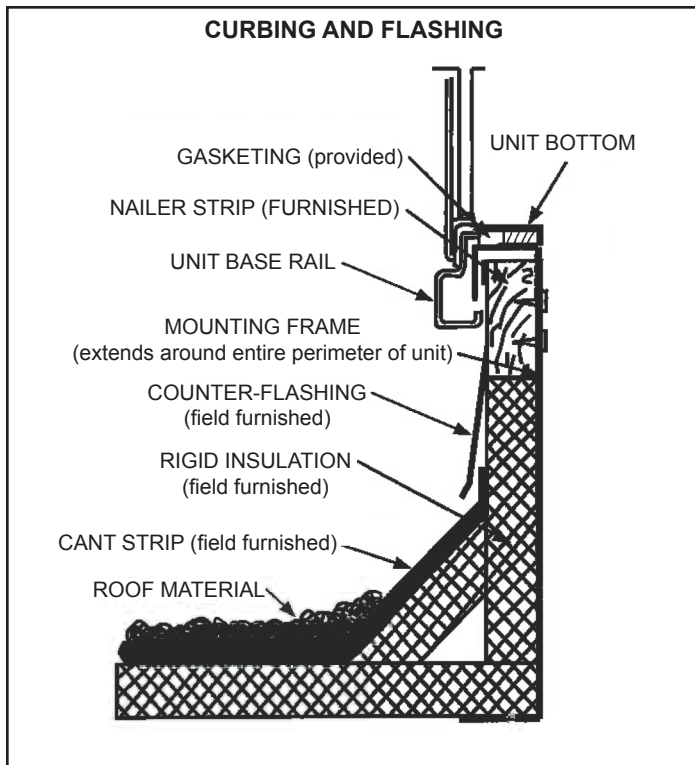
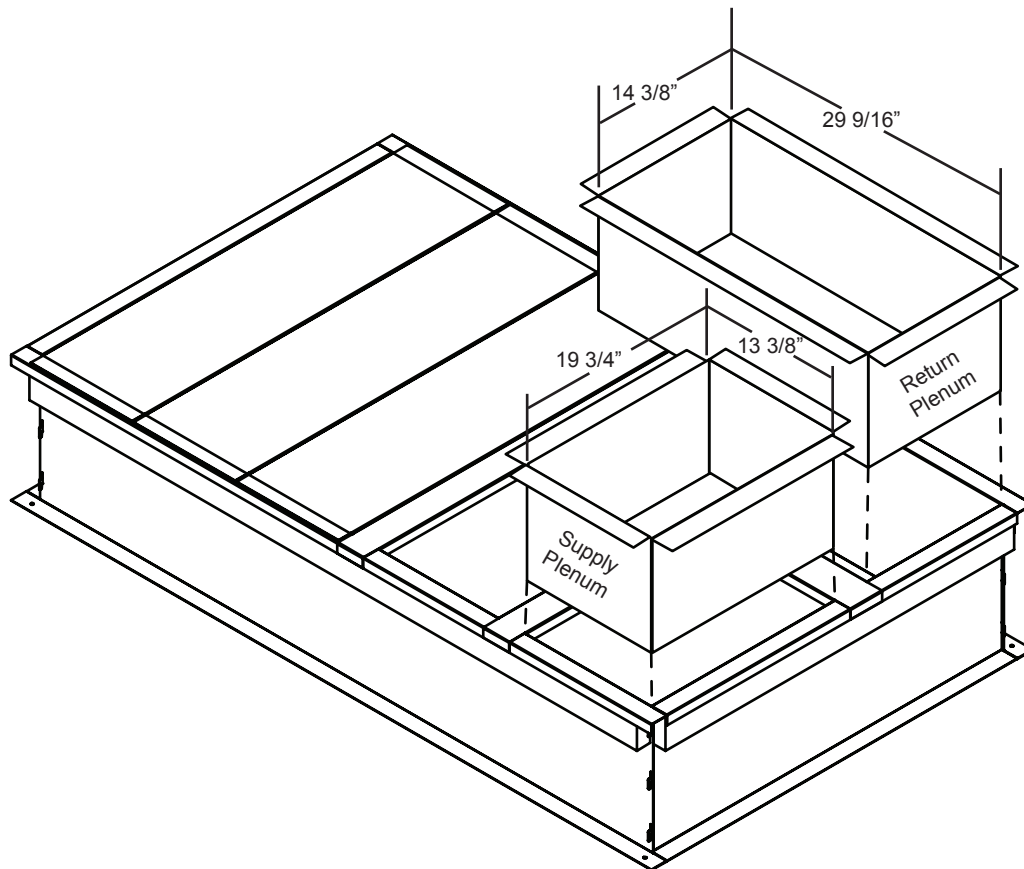

Figure 7
Figure 8
STEP 5: Roof-in curb see figure 7. Follow all local and applicable codes. Set duct in curb per figure 8.
Plenum must be constructed of galvanized steel (26 gauge minimum) with mat-faces fiberglass insulation applied to the inside. It is recommended that 1/2 in. (13 mm) thick, 3lb./ft.³ (48kg/m³) density fiberglass insulation be used. However, if 1-1/2lb./ft.³ (24kg/m³) density insulation is used, it should be secured with mechanical fasteners. Install plenum as shown in figure 8 and secure in place with sheet metal screws.
Plenum collar must be constructed of galvanized steel (26 gauge minimum) and lined with mat-faced fiberglass insulation. It is recommended that 1/2 lb. (13mm) thick, 3lb./ft.³ (48kg/m³) density fiberglass insulation be used. However, if 1-1/2lb./ft.³ (24kg/m³) density insulation is used, it should be secured with mechanical fasteners. Install plenum as shown in figure 8.